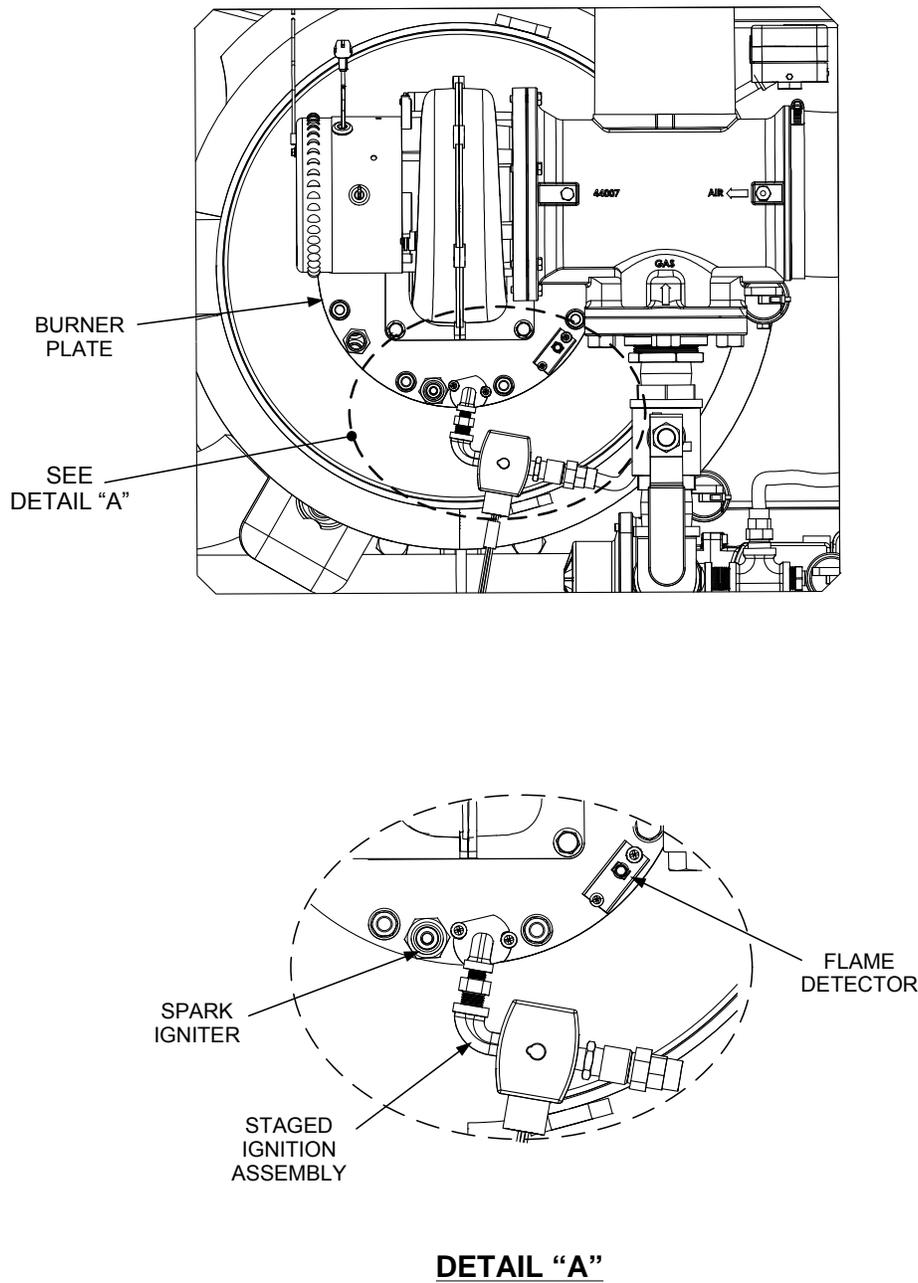

Figure 9. Burner Assembly Igniter & Flame Detector Locations
3. Refer to Figure 9 and reinstall the igniter in the location shown. Do not over-tighten. A slight snugging up is sufficient.
1. Refer to Figure 9 to locate the flame detector installation location.